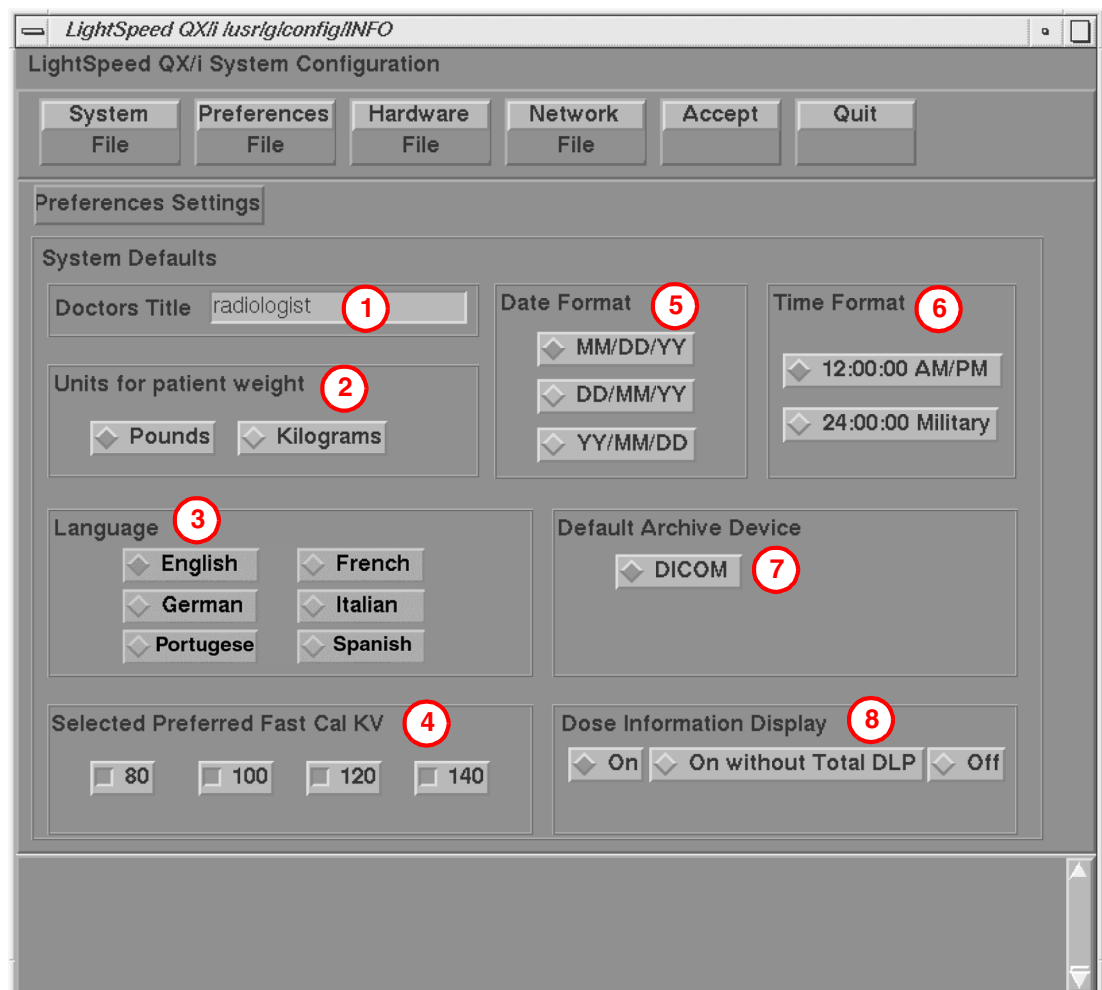

Figure 6-14 Preferences Setup Screen
- 5.) Select the PREFERENCES button to display the Preference Settings Screen as shown in Figure 6-14.